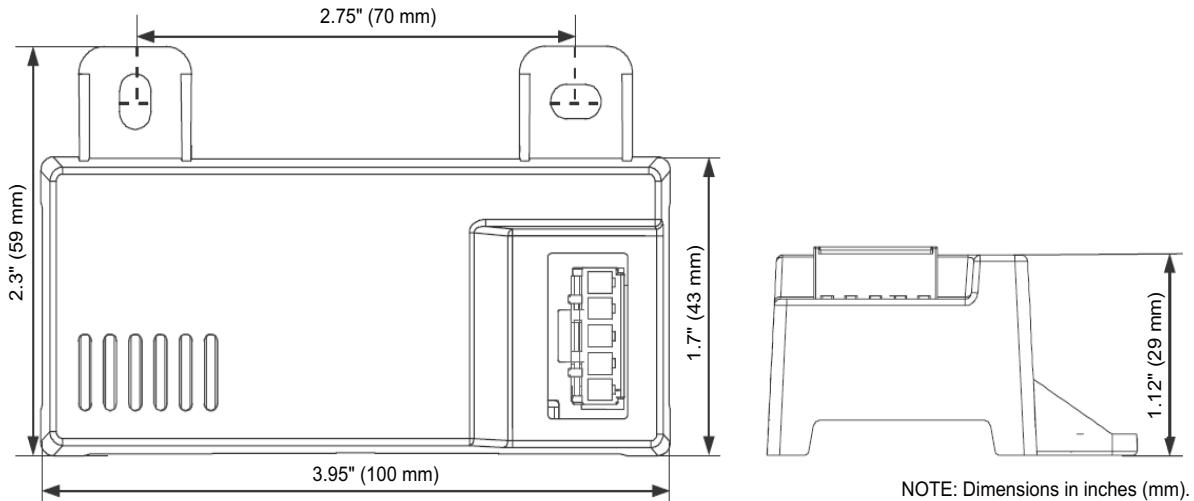
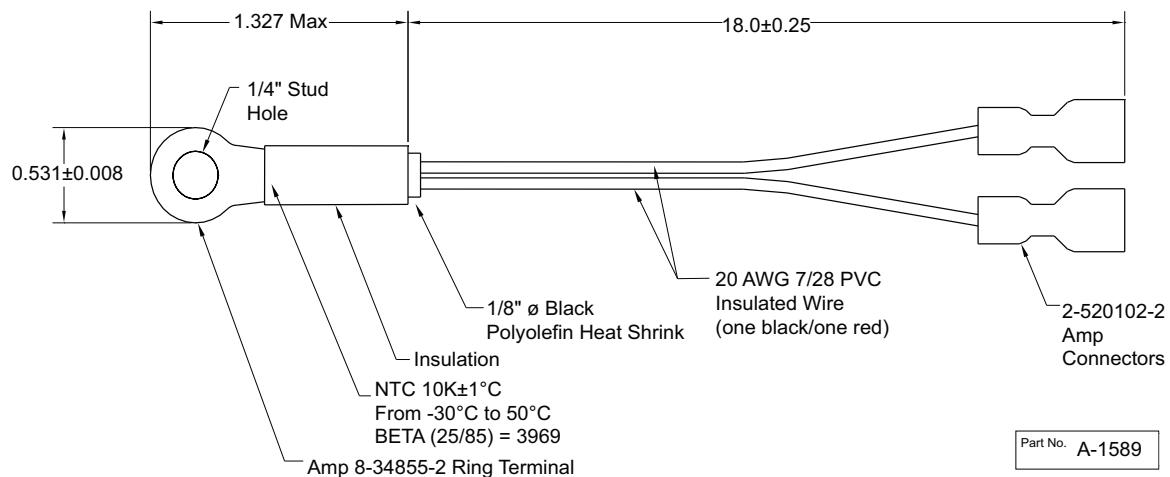
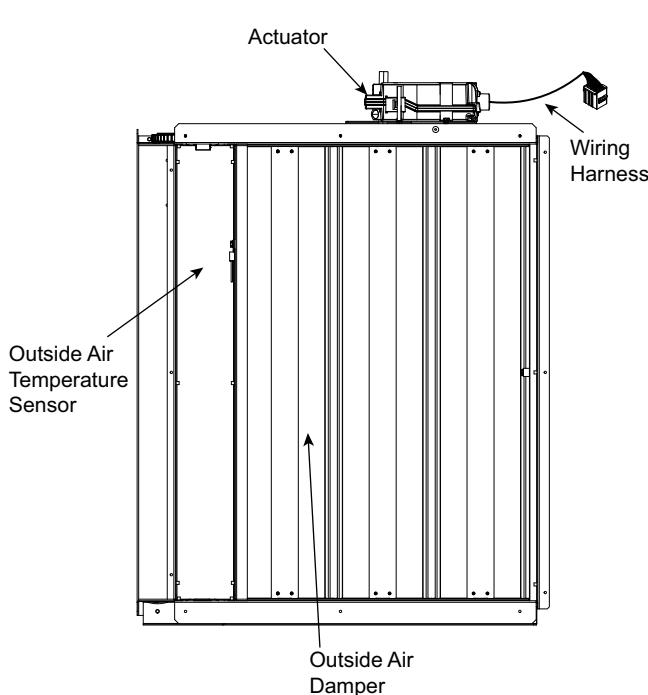

Fig. 88 — HH57LW001 Dimensional, Connection and Switching Information
Fig. 89 — HH79NZ039 Dry Bulb and Mixed Air Sensor Wiring
Fig. 90 — EconomizerONE Component Locations (CRECOMZR108A00 Shown)
When using the HH57LW001 enthalpy sensor (see Fig. 88) for outside air changeover, the existing HH79NZ039 dry bulb sensor (see Fig. 89) must be removed. The enthalpy sensor will be mounted in the same location as the dry bulb sensor (see Fig. 90). When the enthalpy sensor's OA (Outside Air) temperature, enthalpy, and dew point are below their respective setpoints, the outside air can be used for free cooling. When any of these are above the setpoint, free cooling will not be available. Enthalpy setpoints are configurable and create an enthalpy boundary according to the user's input. For additional details, see Fig. 91-92 and Table 37.
The optional enthalpy control sensor (P/N: HH57LW001) communicates with the POL224 economizer controller using the 5-wire harness, 48TC005213. The HH57LW001 sensor can be used as a single outside air enthalpy, a differential return enthalpy, or a differential return temperature sensor. Refer to the base unit control wiring diagrams found earlier in this book to wire the HH57LW001 enthalpy sensor for each option. Use Fig. 88 and Table 39 on page 75 to locate the wiring terminals for each enthalpy control sensor.
Economizers are shipped standard with an HH79NZ039 outside air dry bulb sensor (see Fig. 89). System default setting (high temp limit) is 63°F (17°C) and has a range of 48°F to 80°F (9°C to 27°C). Sensor is factory installed on economizer.
If installing the optional HH57LW001 enthalpy sensor, the HH79NZ039 dry bulb outside air sensor must first be removed. Wire sensor to harness 48TC005213 and the (5) wires from the harness to the EconomizerONE harness in the return air chamber. Harness 48TC005213 has a 5-pin plug that connects directly to the HH57LW001 enthalpy sensor. Refer to the base unit control wiring diagrams earlier in this book for wiring connections. Refer to Fig. 88 and Table 39.